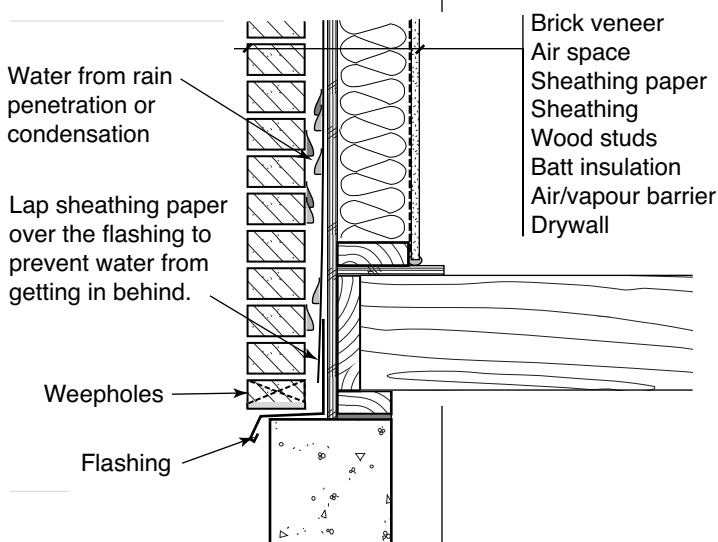

FIGURE 7
- ◆ Sheathing paper, flashings, and drains must be provided to direct water out of the air space (see Figure 7).